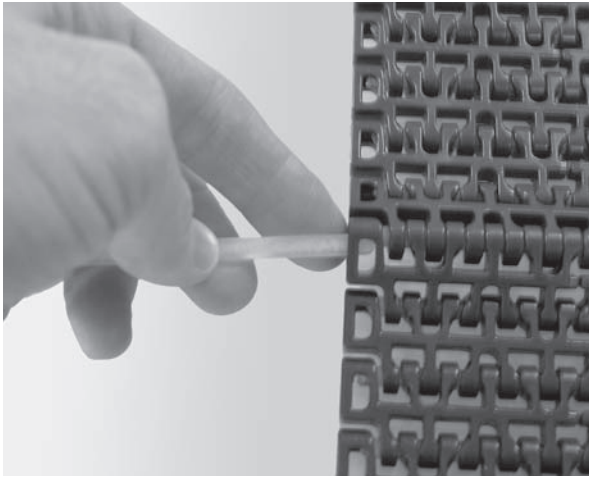

Figure 57
2. Use a second belt rod of the same size to push on the opposite end of the belt rod. (Figure 57).